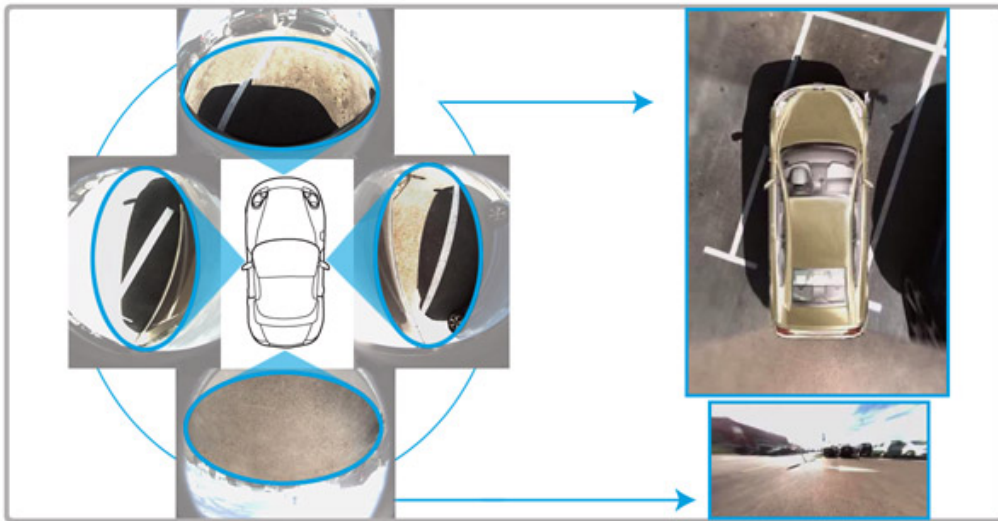
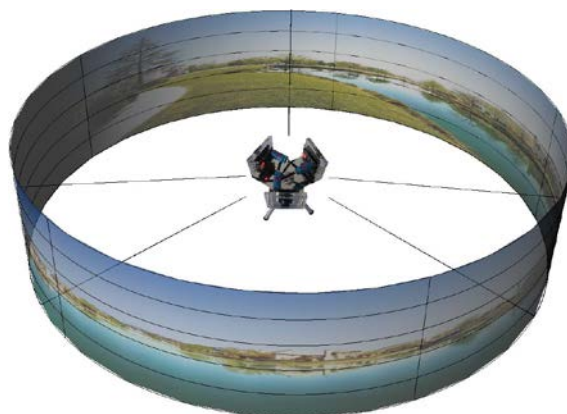

Figure 4: Xylon’s Four-Camera Surround View DA Demo System – Camera Positioning and Example Video Outputs (Bird’s View Perspective)
Figure 7: The difference between the Bird's View perspective and the Bowl View
The logiVIEW can be used in automotive Driver Assistance (DA) applications, such as the Four-Camera System for Surround View DA (Figure 4, 5 and 6), Heads-Up Displays (HUD), Lane Departure Warning, Rear-View (Back-Up) and others. Due to its high versatility and configurability, it can be also used in other single or multi-camera applications, such as medical endoscopy, surveillance systems (Panoramic 360° View camera - Figure 7), defense equipment, etc.